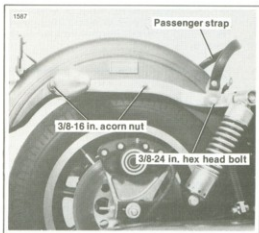

Figure 2-129. Rear Fender Removal
2. See Figure 2-129. Remove the two 3/8"-24 hex head bolts and hardware securing the rear fender and passenger strap.